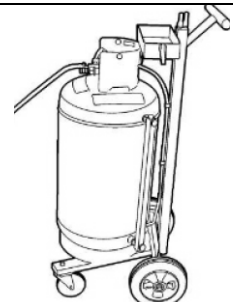

FIGURE 2
4. Use a coolant extractor (FIGURE 2) to drain the coolant from the engine. An alternate method is to drain the coolant into a suitable container using the drain hose.